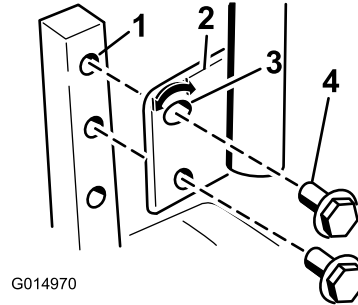

Figure 31
1. Remove the 2 bolts and 2 washers holding the control lever to the control arm shaft (Figure 31).
2. Move the control lever to the next set of holes. Secure the lever with the 2 bolts and 2 washers (Figure 31).